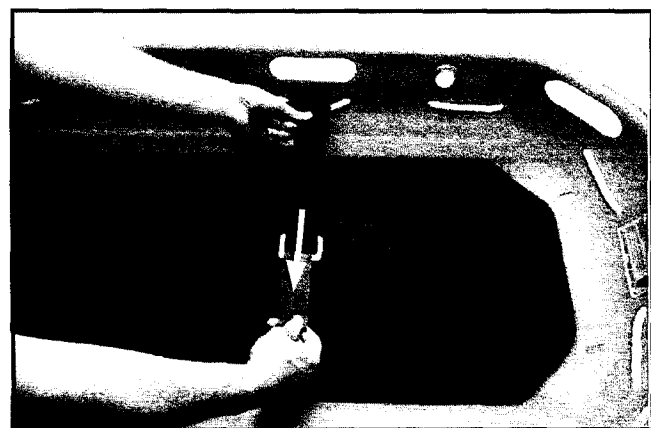

Figure 8 - Tightening the Restraint on the Rope
3. Thread the buckle through the restraint loop and pull the free end until the loop is tight around the rope (Figure 8).